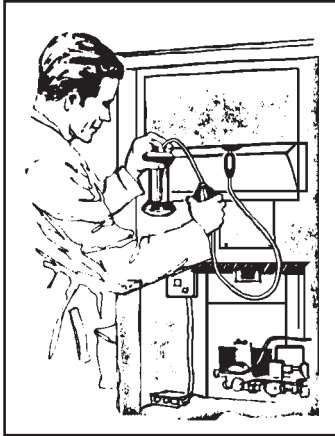

Figure 17. Checking CO₂ of gas designed furnace (sampling tube inserted through draft diverter; flue gas temperature test can be made at same point).
5.5.5 Where is Percent CO₂ or O₂ Measured? (Refer to Figure 17)
Residential gas furnaces with built-in draft diverter (gas designed) will require the FYRITE metal Sampling Tube to be inserted as illustrated in Figure 17 to avoid dilution of flue gas sample.